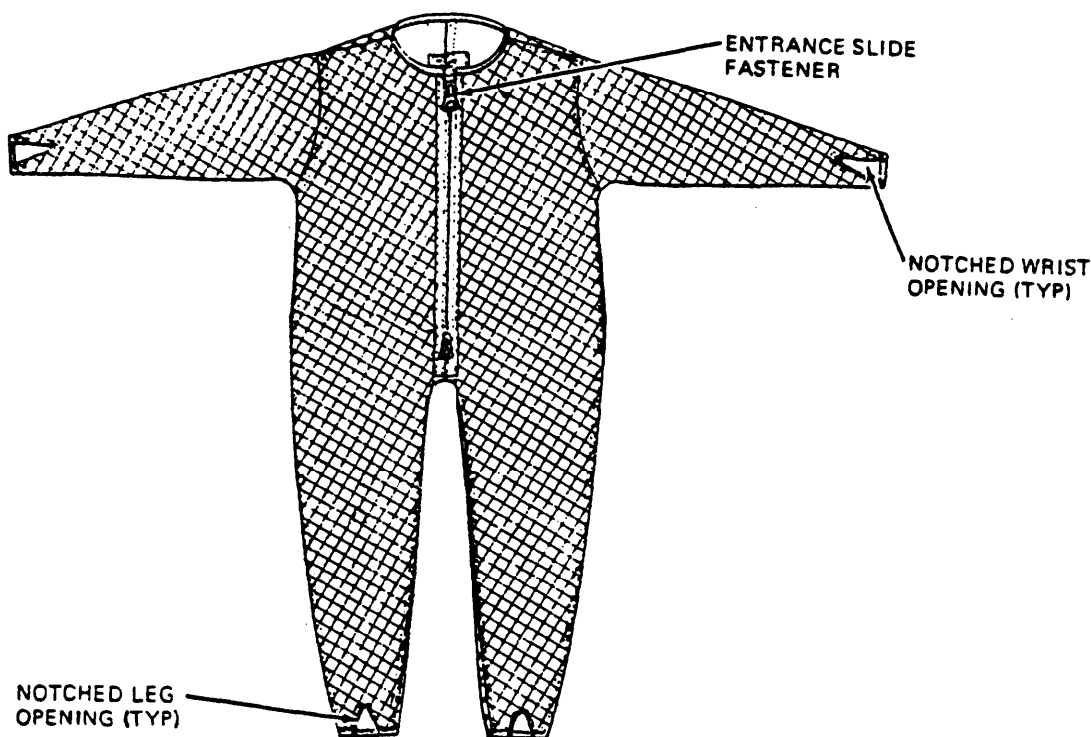

**Figure 4-6.—CWU-23/P liner.**
**CWU-23/P LINER.** The CWU-23/P liner (fig. 4-6) is a one-piece garment that is supplied in 12 sizes. The liner is worn directly under the CWU-62/P antiexposure coverall, and over the recommended underclothing. The liner provides